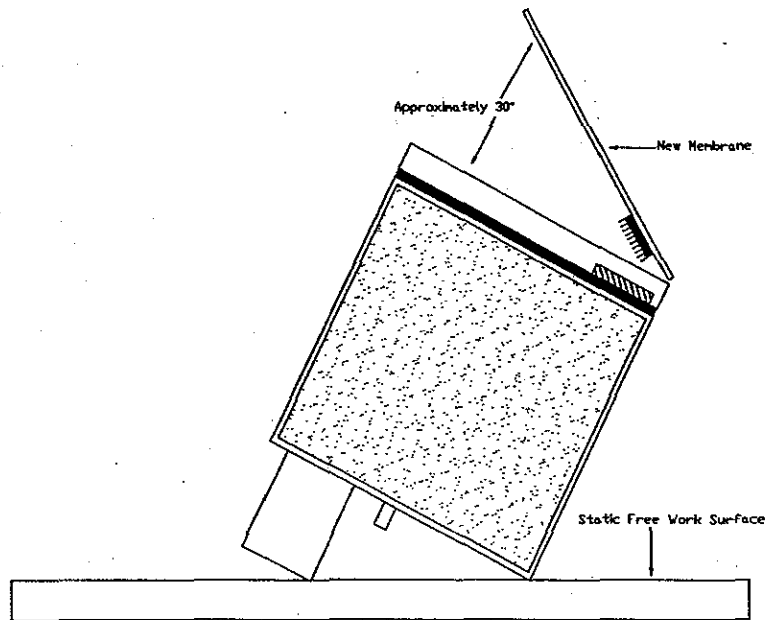

Figure 9
- 2.2 Place the bottom edge of the membrane on the bottom edge of the door casting, and hold at approximately a 30° angle to the door (figure 9).